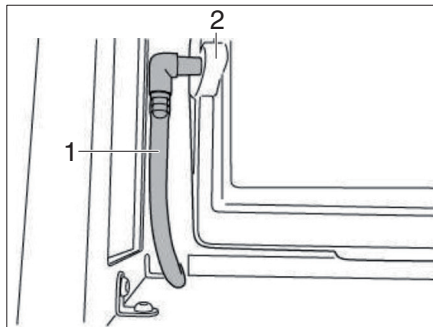
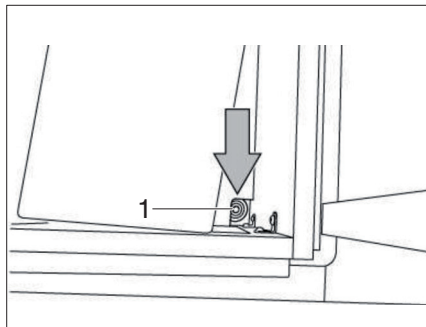

Fig. 86 Vent Pipe Attachment Location
Fig. 87 Pipe Vent Floor Hole
- ▶ Firmly attach the vent pipe (Fig. 86,1) to the battery (Fig. 86,2) and ensure that the pipe exits the vehicle in the hole (Fig. 87,1) provided in the bottom of the battery compartment.